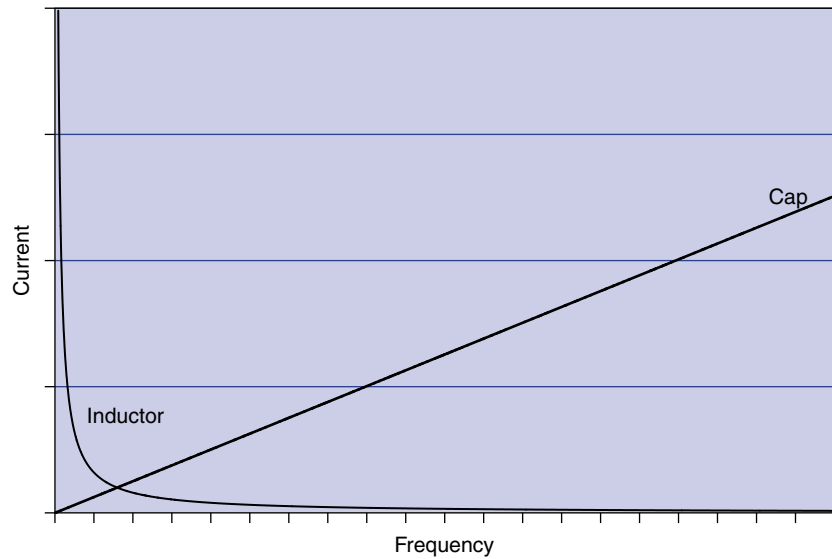

FIGURE 2.31
Figure 2.31 shows what happens to current as frequency varies from zero (DC) to really fast (AC) when hooked up to a voltage source.